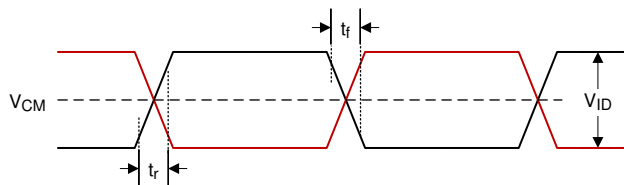

Figure 6-5. LVDS Waveform Requirements
- (11) See Figure 6-5 LVDS Waveform Requirements.
- (12) Supported for Video applications only
- (13) Simultaneous exposure of the DMD to the maximum Section 6.4 for temperature and UV illumination will reduce device lifetime.
(2) See Figure 6-5 for Timing Requirements for LVDS.
(3) Channel A (Bus A) includes the following LVDS pairs: DCLK_AN and DCLK_AP, SCTRL_AN and SCTRL_AP, D_AN(15:0) and D_AP(15:0).
(4) Channel B (Bus B) includes the following LVDS pairs: DCLK_BN and DCLK_BP, SCTRL_BN and SCTRL_BP, D_BN(15:0) and D_BP(15:0).
(5) Channel C (Bus C) includes the following LVDS pairs: DCLK_CN and DCLK_CP, SCTRL_CN and SCTRL_CP, D_CN(15:0) and D_CP(15:0).
(6) Channel D (Bus D) includes the following LVDS pairs: DCLK_DN and DCLK_DP, SCTRL_DN and SCTRL_DP, D_DN(15:0) and D_DP(15:0).